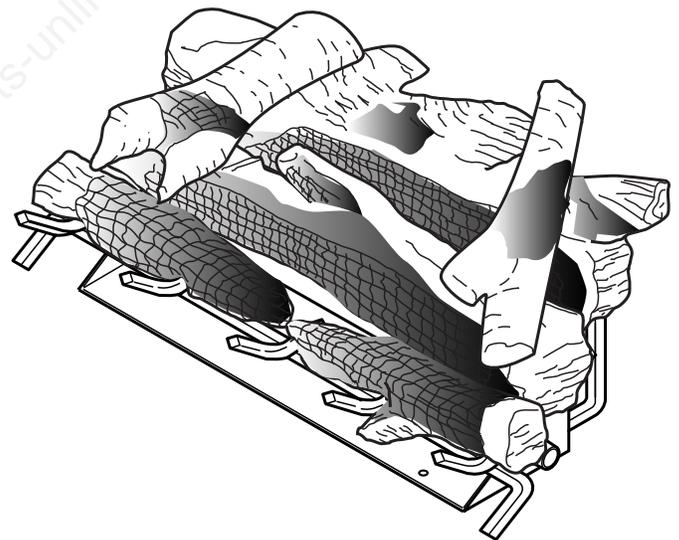

**Figure 71 - Placing Right Crossover Log (#8)**
8. Place Right Crossover Log #8 on Log #3 and Log #7. See Figure 71.